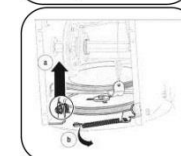

Figure 14
b. Unhook the support bracket spring from the frame. See Figure 14.